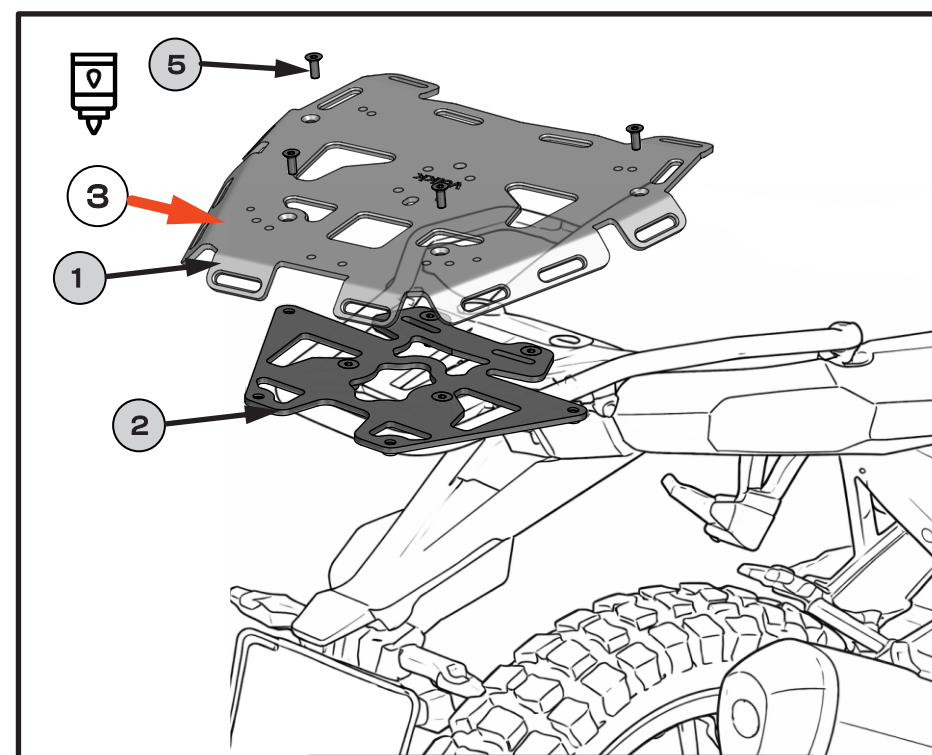

Fig. 3
3. Fasten Top case plate **[1]** to mounting plate **[2]** using screws **[5]**. Apply a medium-strength threadlocker. **[Fig. 3]**